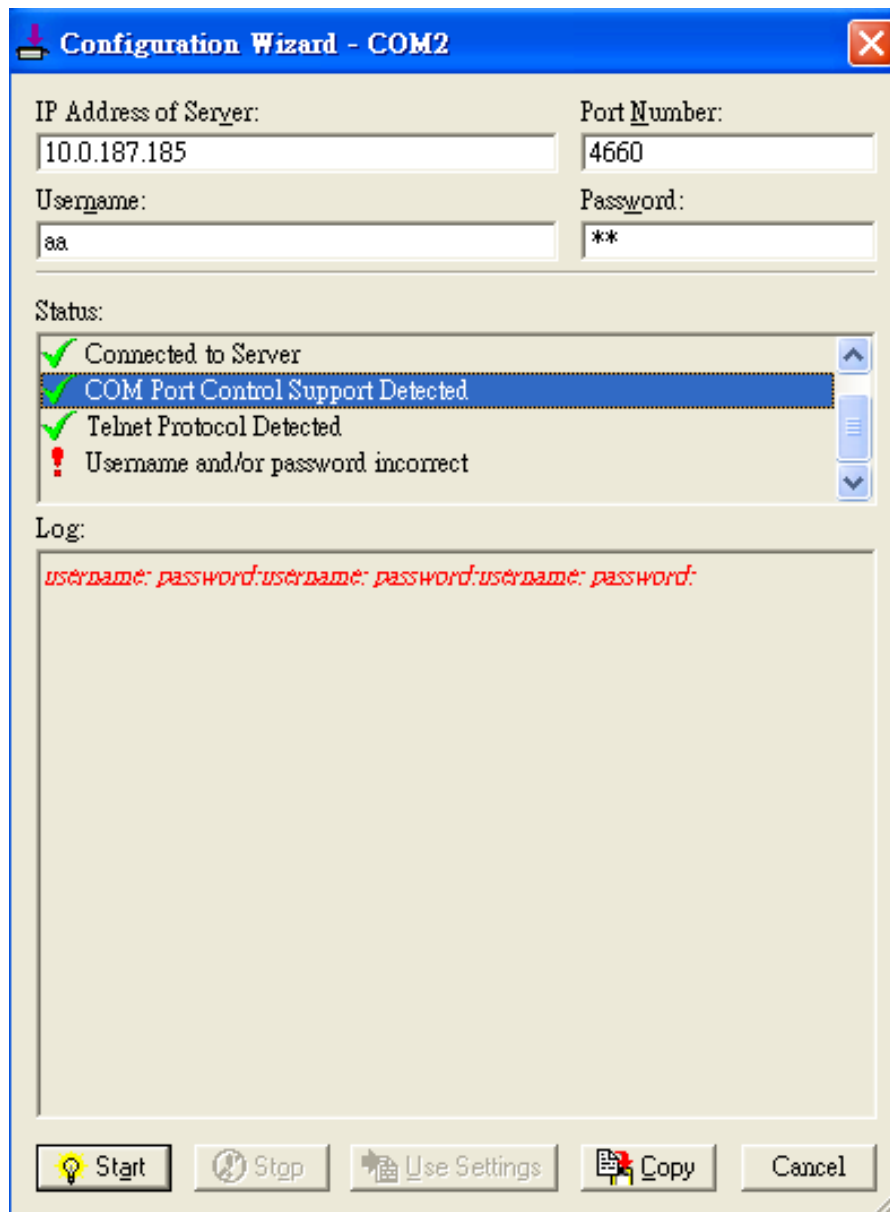

Figure 6.15 VCOM Authentication failed due to incorrect Username and/or Password
- If the status reports with an exclamation mark with a message **“Username and/or password incorrect”** as shown in Figure 6.15. This means that the wrong username and/or password were entered and the authentication process failed.